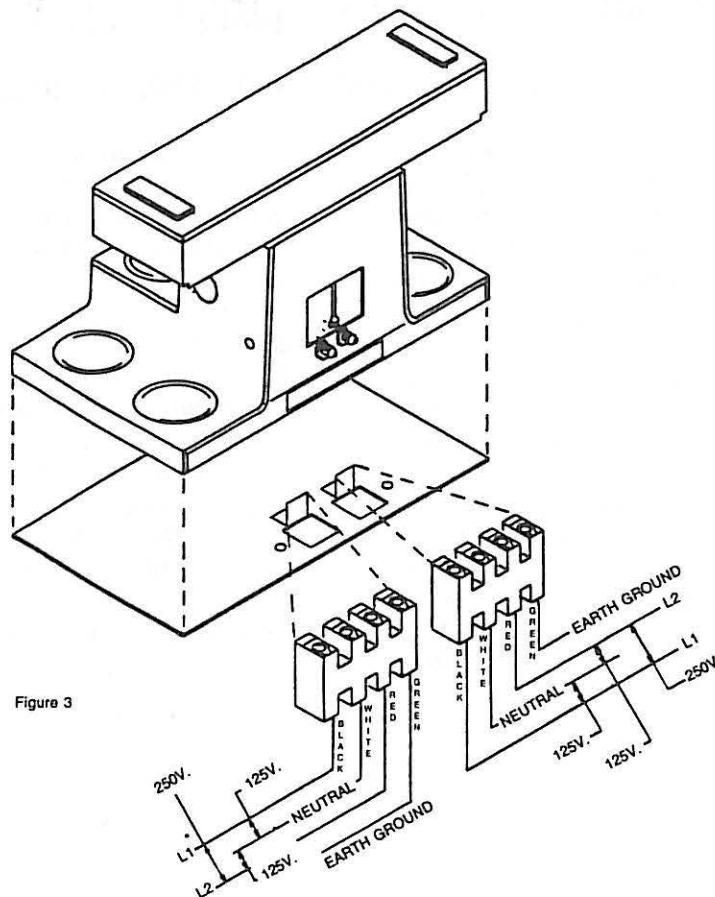

Figure 3
IMPORTANT: Prior to starting the electrical hook-up, check power source and electrical receptacle for proper single phase voltage supply. Figure 3 details the power requirements of each brewing section of a unit.
CAUTION: DO NOT CONNECT TO A THREE (3) PHASE POWER SOURCE OR ANY OTHER THAN AS NOTED IN FIGURE 3, AS DAMAGES TO THE UNIT CAN OCCUR THAT ARE NOT THE RESPONSIBILITY OF THE MANUFACTURER OF THE UNIT
3. To install power cords, remove rear and bottom cover panels of the unit for access to the power junction blocks. See Figure 3. A separate power cord must be wired into each junction block thru either the rear or thru the bottom opening. If bottom access is to be used, remove the two (2) snap-in Plug Buttons, and transfer them to the power cord entrance holes in the rear of the unit.
4. Recheck the Tank Heater Switch in each section — it must be in the OFF position. Plug in both power cords, check voltages at both terminal blocks to be certain each conforms to Figure 3 designations.